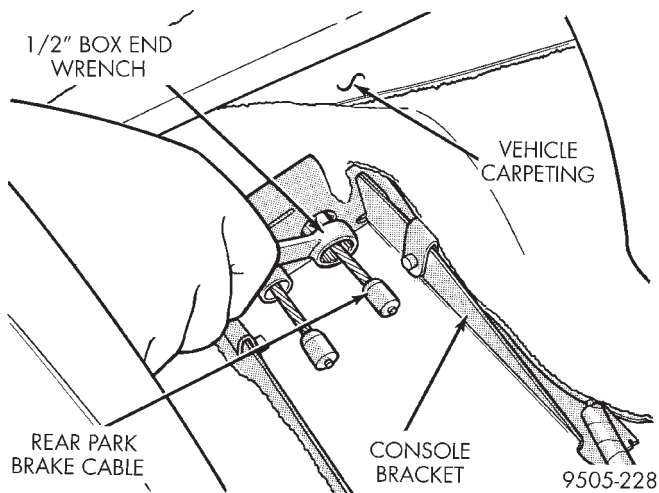

Fig. 153 Compressing Park Brake Cable Retaining Tabs
(14) Install the box end of a 1/2 in. wrench over the park brake cable retainer as indicated in (Fig. 153). This will compress tabs on park brake cable retainer, allowing cable to be removed from console bracket. From under carpet, grasp park brake cable